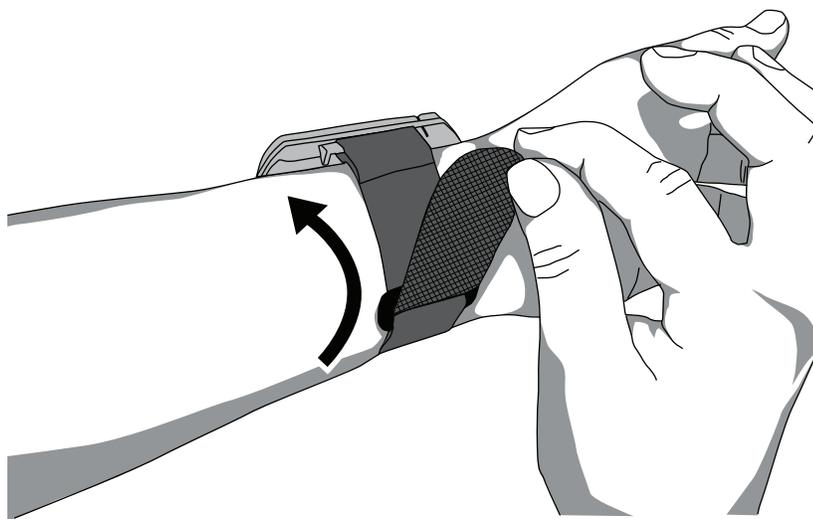

Figure 15: Fasten Two-Piece Wrist Band
4. Fold the adjustable strap back over the plastic ring and attach the fastener to the adjustable strap (figure 15).